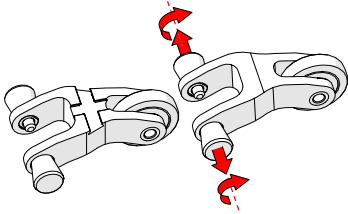

Fig. 58 - Pull out and twist pins
1. Pull the pins out from the wheels, twist a quarter turn latching the pins in a retracted state (*Fig. 58*).